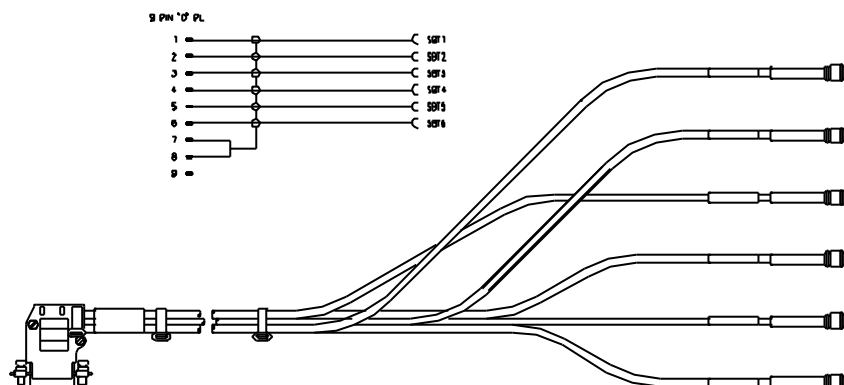

Figure 8 PDU DC Output port to Bias Tee
a) PDU Output port to Bias Tee (refer to Figure 8)